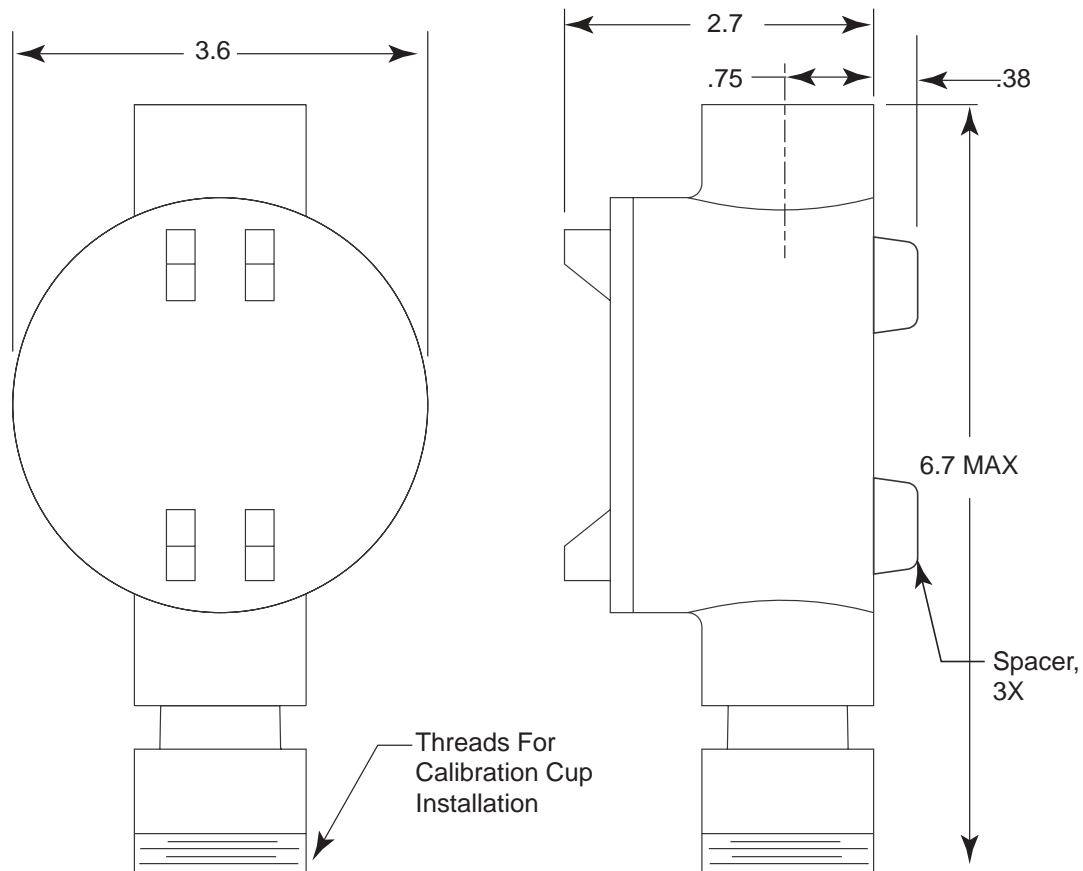

Figure 1: Mounting the Oxygen Detector
NOTE: If you are mounting a 65-2511RK, it does not include a junction box and is usually factory installed in one of a controller's conduit hubs or may be field installed using the 3/4" NPT threads on the end with the wires. The 65-2512RK includes a junction box as shown in Figure 1 below.
2. At the mounting site you select, hang or mount the junction box with the detector facing down (see Figure 1).